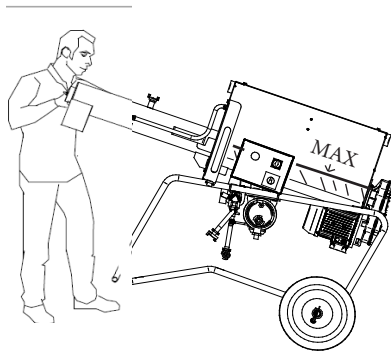
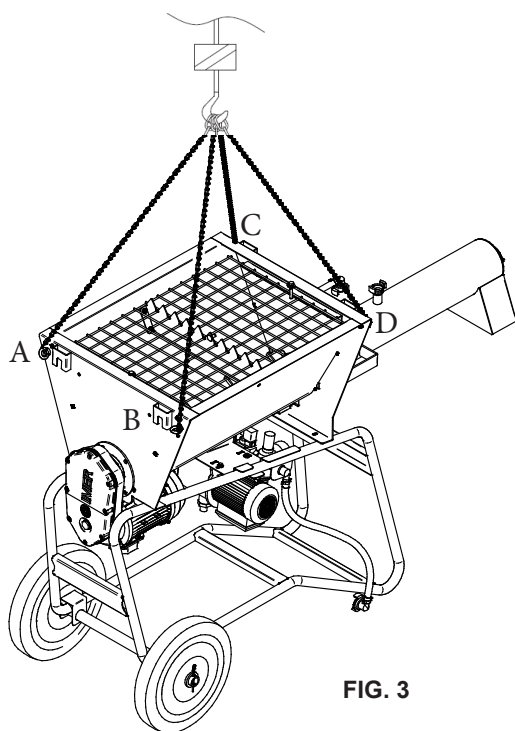

FIG. 2
FIG. 3
**8. TRANSPORT (see fig.2 and fig.3)**
**Lift the mixer by means of the relative handles (fig.2) and push in the required direction.**
**- CAUTION! Never use points other than as specified in figure 3 to lift the machine**
To lift the machine, use the four specific attachment rings (fig.3).